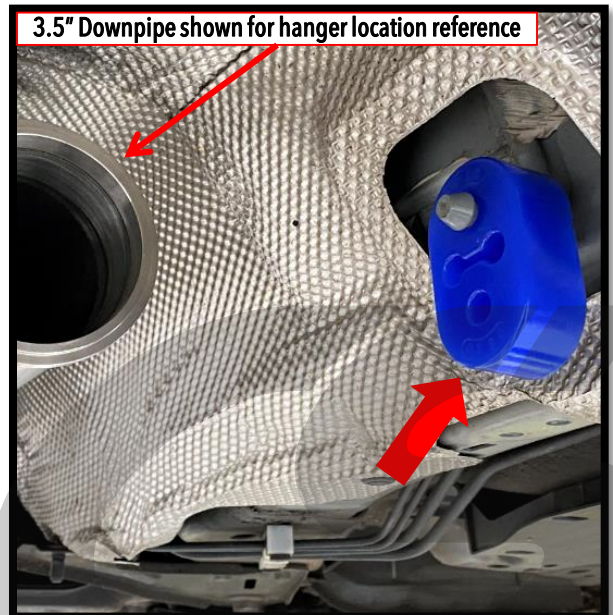

Figure 6a
- a) Install the supplied non-twist exhaust hanger on the front-most location on the vehicle. Shown in **Figure 6a**. The exhaust was removed from this hanger location in Step 4b.